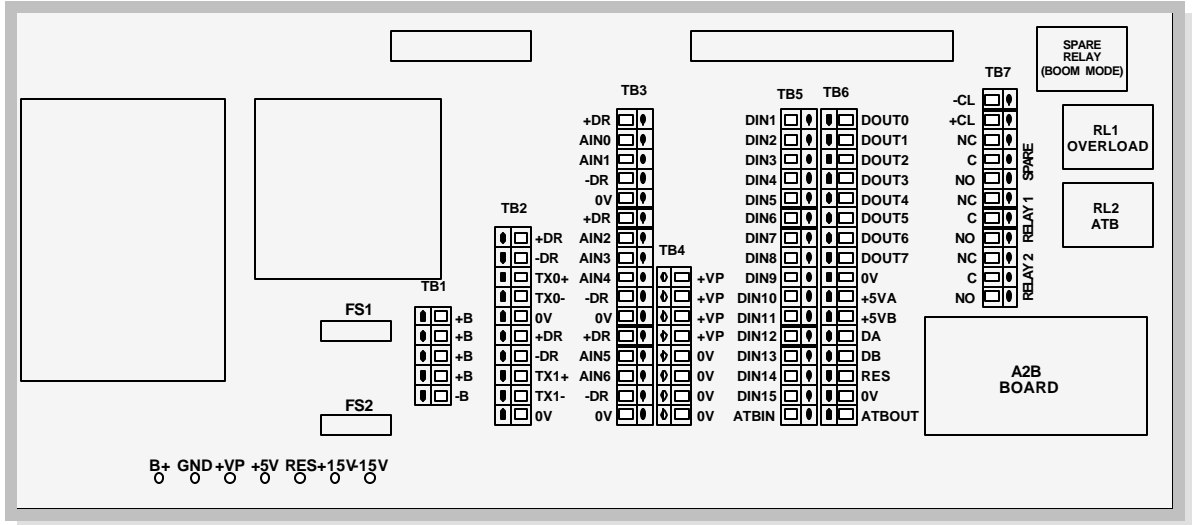

FIGURE 4.2 COMPUTER BOX AND LAYOUT OF THE TERMINATION BOARD
4. Figure 4.2 shows the Computer Box and the layout of the Termination Board.